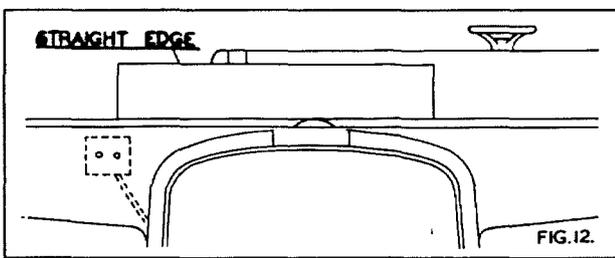

FIG.12.
6. To check the setting of the knives raise the back planing table to its top position i. e. the zero mark on the rule or $\frac{1}{16}$ " (1.5 mm) above the outer surface of the cutterblock. Place a straight edge on the table as shown in fig. 12 and rotate the cutterblock by hand until the knife just touches the straight edge. Repeat this check in various positions over the width of the table to ensure the knife is parallel. Repeat this procedure for all knives.